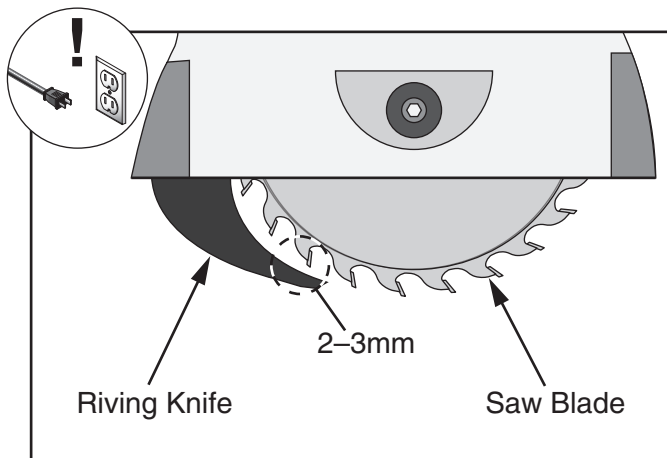

Figure 10. Positioning riving knife with blade.
2. Loosen riving knife lock screw and position riving knife $\frac{3}{32}$ "– $\frac{1}{8}$ " (2–3mm) away from saw blade teeth just above lowest part of blade (see **Figure 10**).